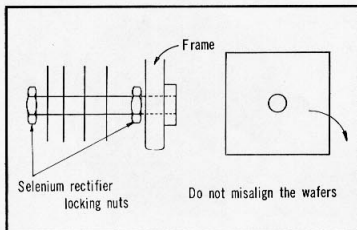

Figure 5-38. Selenium rectifier installation instruction
- (2) The rectifier locking nut (painted nut) should not be loosened or the wafers rotated. (Fig. 5.38) Any movement will cause the electrode alloy to peel, affecting the rectification function, further, it will destroy the moisture-proofing and thereby, shorten the life of the selenium rectifier.
- (3) Take adequate caution not to permit rain, salt water, water or battery electrolyte to get on the selenium rectifier, in which case it will cause the amount of current flowing in the reverse direction to increase. Further, if the selenium wafer is exposed to moisture for any length of time, oxide will be produced on the surface, resulting in a shorted condition and the following trouble will occur.
- (4) Do not start the engine in a condition where the battery or the load is not connected. (the circuit being electrically open)